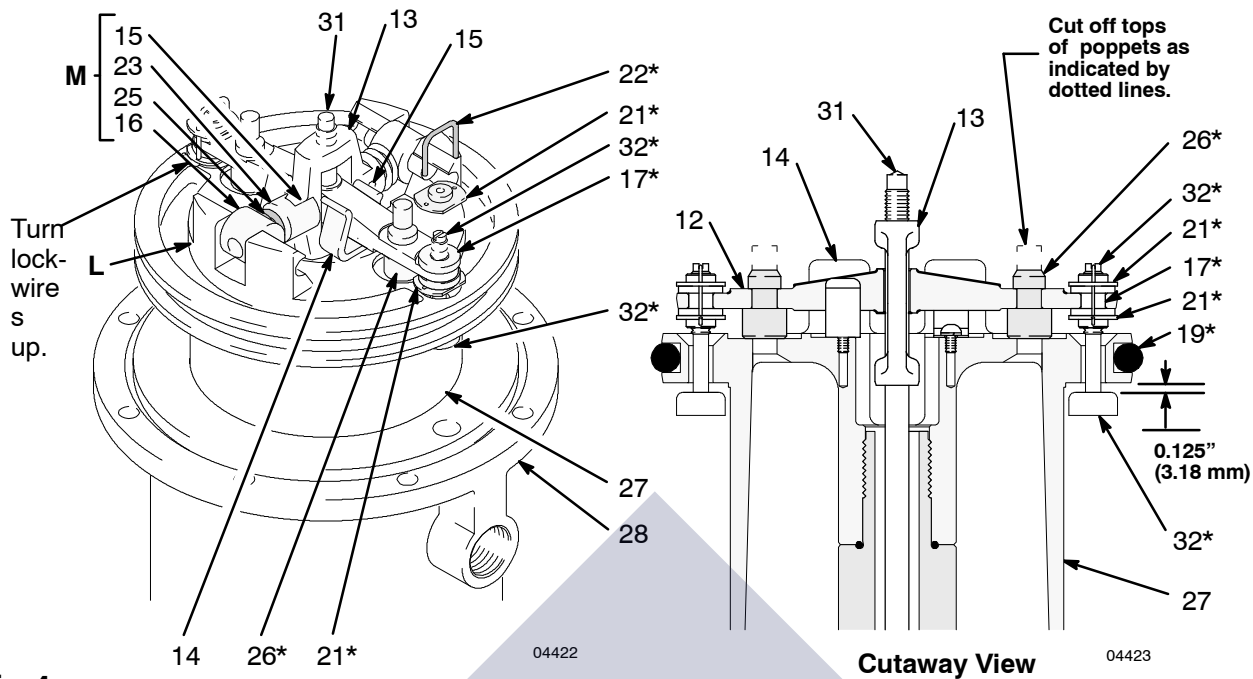

Fig. 4
10. Pull the piston assembly from the air motor base (28), and set it aside.
11. Remove the vee block seal (10†) with a pick, and clean the groove in the air motor base (28). Remove any dirt in the groove, and wipe the groove clean with a cloth.
13. Use a screwdriver to push down on the trip rod yoke (13), and snap the toggles down. See Fig. 4.
14. *In this step, while you are prying with the screwdriver with one hand, cover the toggle assemblies with your other hand so as to catch the spring-loaded toggle assemblies when they snap out of the lugs.* Place the tip of a screwdriver into the piston between the piston lugs (L) below the pivot pins (16) on the toggles, pry up with the screwdriver handle to compress the springs on the toggle assembly (M) up and away from the piston lugs, and remove the parts. See Fig. 4.
15. Straighten the lockwires (22\*) and remove them from the valve nuts (21\*). Screw the top nuts off. Remove the trip rod yoke (13), actuator (12), and trip rod (31). Unscrew the bottom nuts (21\*), and remove the poppets. Make sure the valve bar spring clips (14) are not worn or damaged and that they properly guide the actuator (12).
16. Remove the exhaust valve poppets (26) by cutting them with a side cutter, then pull them out of the actuator (12).
To reduce the risk of pinching or amputating your fingers, keep your fingers clear of the toggle assemblies when you are snapping the toggles (M in Fig. 4 ) up or down.
1. Place the piston rod (29) flats in the vice with the air motor up.
2. Pull the exhaust valve poppets (26\*) into the valve actuator (12), and clip off the top parts of the poppets (shown with dotted lines in the **Cutaway View** in Fig. 4).
3. Install the grommets (17\*) in the actuator (12), place the inlet valve poppets (32\*) in the piston, and thread the bottom valve nuts (21\*) onto the inlet valve poppets until there are a few threads left before the threads run out.
4. Grease heavily and place the trip rod (31) in the piston, place the actuator (12) in the yoke (13), and place the well-greased actuator/yoke assembly in the piston, with the trip rod going through the center holes of the actuator and yoke and the inlet valve poppets (32\*) going through the grommets (17\*).
6. Install the toggle pins (15) in the yoke (13), place the toggle arm (23) ends of the toggle assembly (M) onto the toggle pins, and snap the pivot pin (16) ends of the toggle assembly into the lugs (L).
7. Measuring with the gauge (Part No.171818), create 0.125 in. (3.18 mm) of clearance between the inlet valve poppets (32\*) and the piston seat when the inlet valve is open. See the **Cutaway View** Fig. 4.